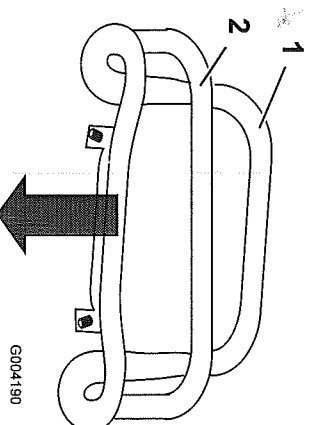

Figure 51
3. Pull straight back on the traction control so the front of the control contacts the reference bar (Figure 51).